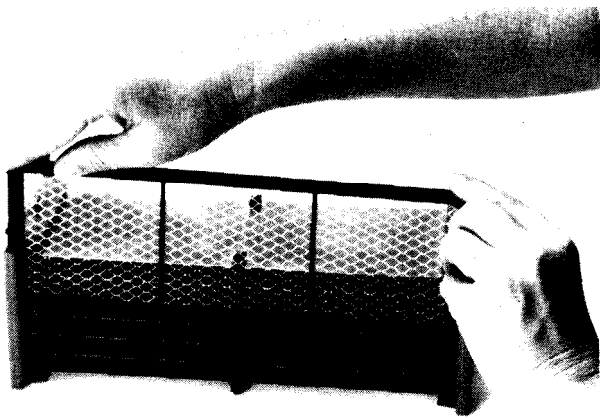

Figure 11
A. Slide the pre-filter in the slots provided in the front of the cell (Figure 11).